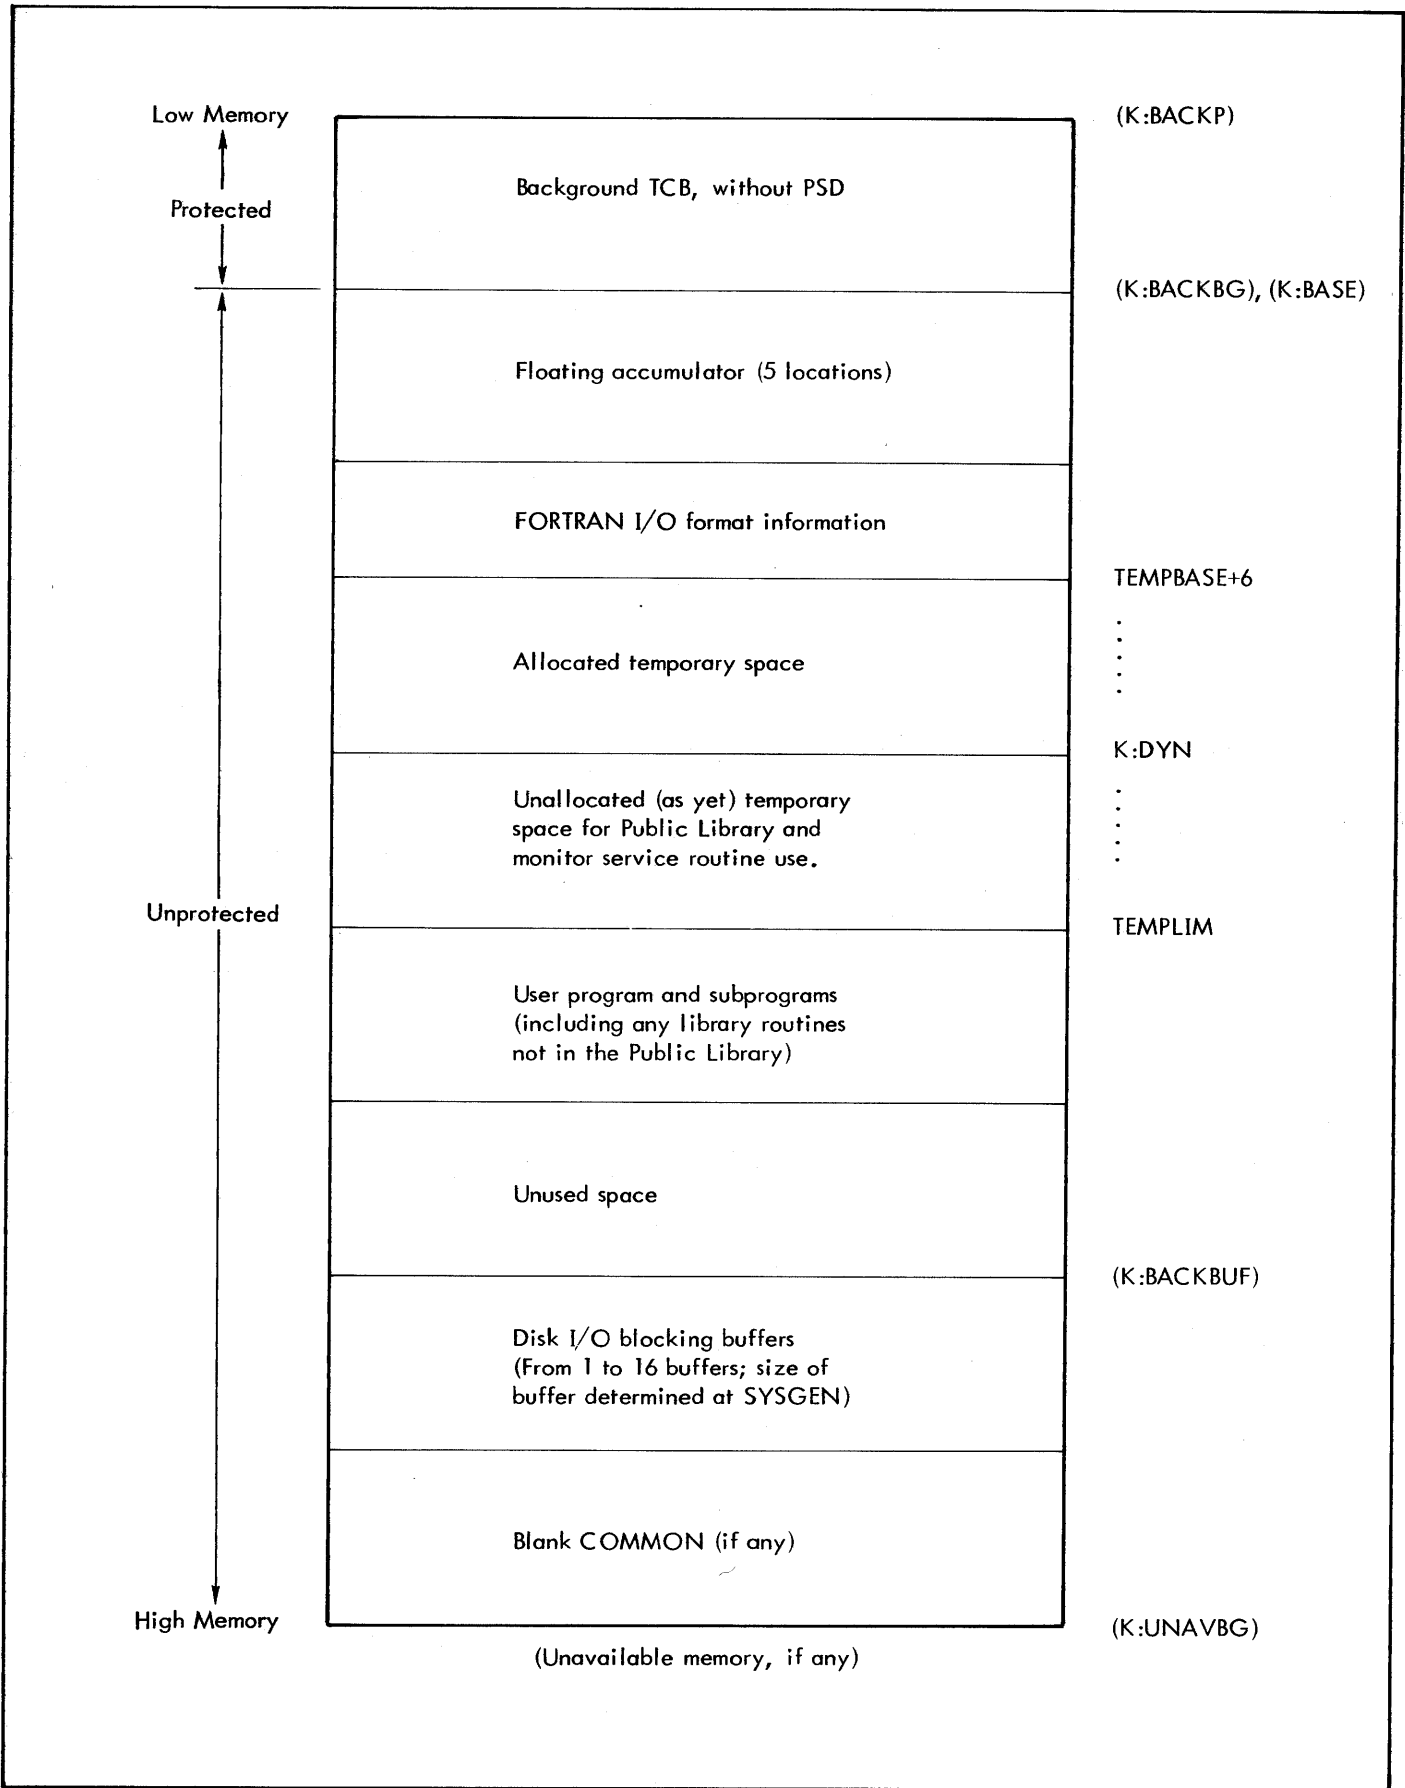

Figure 5. Background Memory Usage Example
- e. Background. At least 256 words must be allocated whether or not batch is required; minimum useful amount allocated should be the length of the Job Control Processor (6000 words decimal) (see Figure 5).